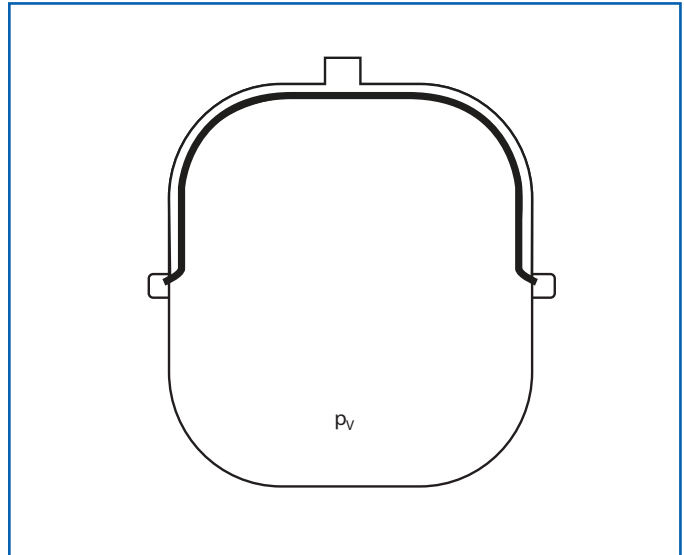

Fig. 104 In a precharged diaphragm expansion vessel that is disconnected from the system the membrane will fill the entire space.
**Calculation parameters** (Fig. 103) and picture legend (Fig. 104)